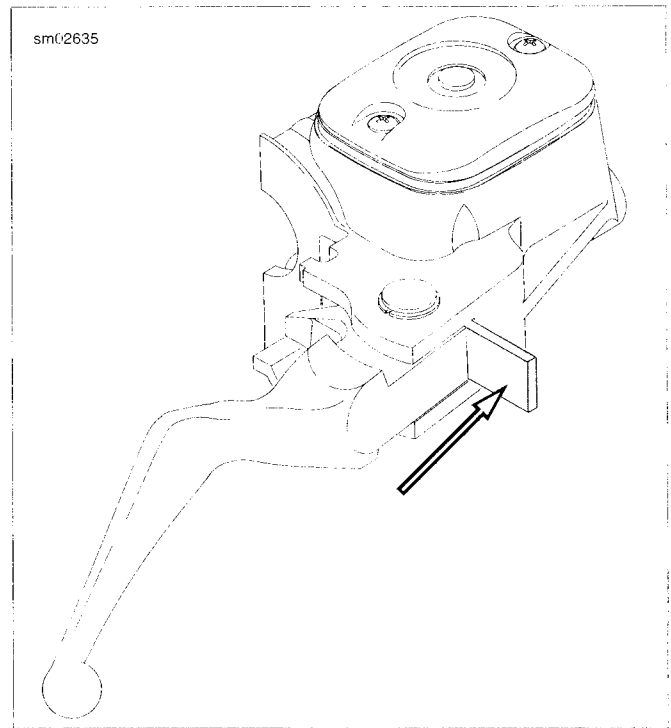

Figure 7-90. Install 5/32 in. (4 mm) Thickness Cardboard Insert
2. See Figure 7-90. Place the 5/32 in. (4 mm) thickness cardboard insert between the brake lever and lever bracket.